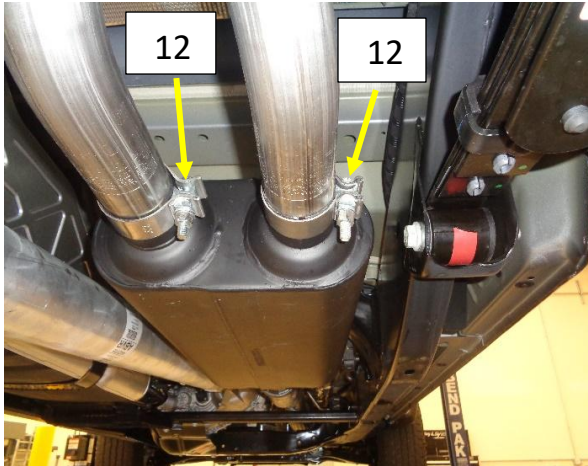

Figure.4
8. Install (x2) Supplied 2.5" band clamps (12) on to the muffler outlet pipes as shown. Do not tighten Fig.4